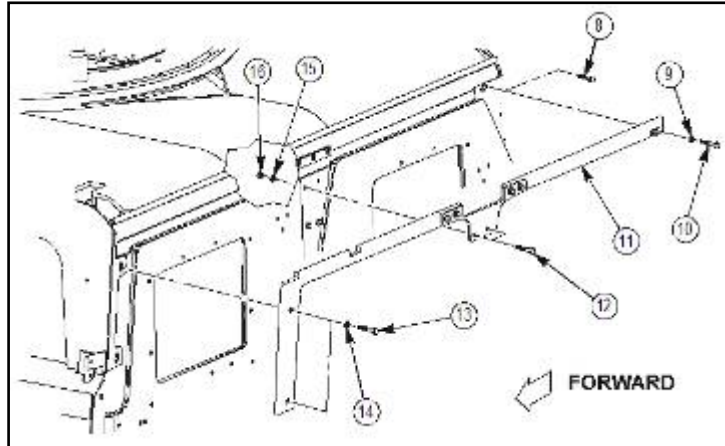

Figure 3b.
1. Remove two locknuts (16), washers (15), and capscrews (12) from door header aluminum overlay assembly (11) as shown in figure 3b. Discard all fasteners.
2. Remove capscrew (10) and washer (9) from door header aluminum overlay assembly (11) as shown in figure 3b. Discard all fasteners.
3. Remove two capscrews (13), washers (14), and door header aluminum overlay assembly (11) from vehicle as shown in figure 3b. Discard all parts.
4. Apply 8030-01-025-1692 sealing compound to threads of 4397000-008 capscrew (8) and install capscrew (8) as shown in figure 3b. Tighten capscrew (8) to 6 lb-ft (8 N·m).